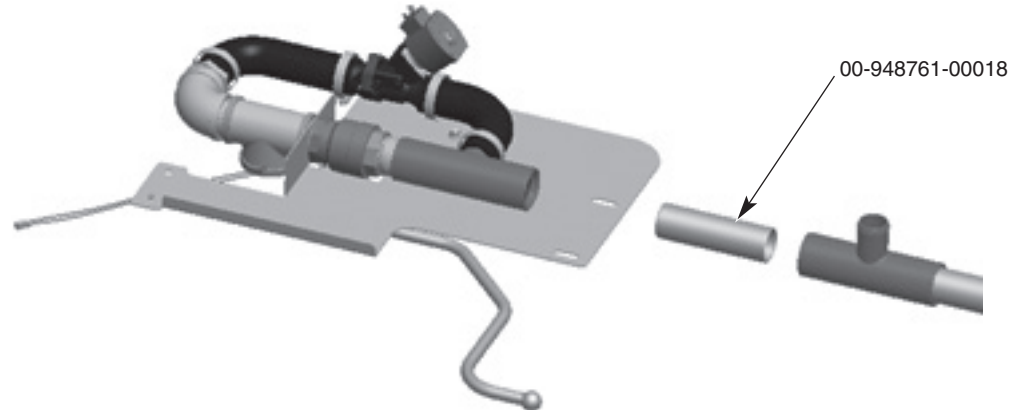

Fig. 15
9. Remove pipe (00-948761-00018) connecting the master drain and the nearest drain tee. 00-948761-00018 can be discarded. See Fig. 15.